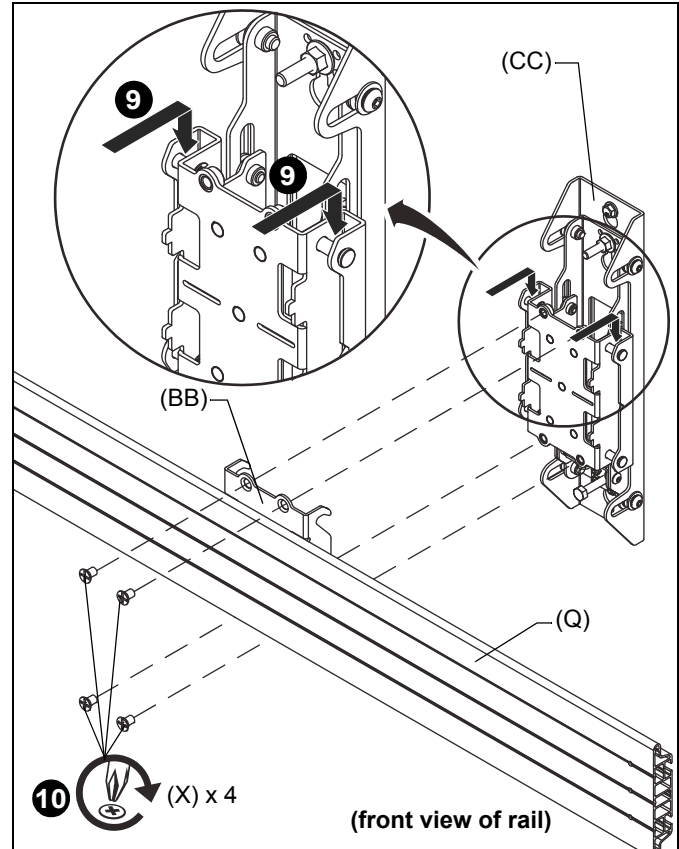

Figure 16
- Hook height adjust plates (BB) over wall uprights (CC or DD). (See Figure 16)
- Fasten mounting rail (Q) to wall uprights using four 5/16 x 1/2" Phillips flat head screws (X) through height adjust plate (BB) and into wall uprights (CC or DD) and tighten all screws. (See Figure 16)